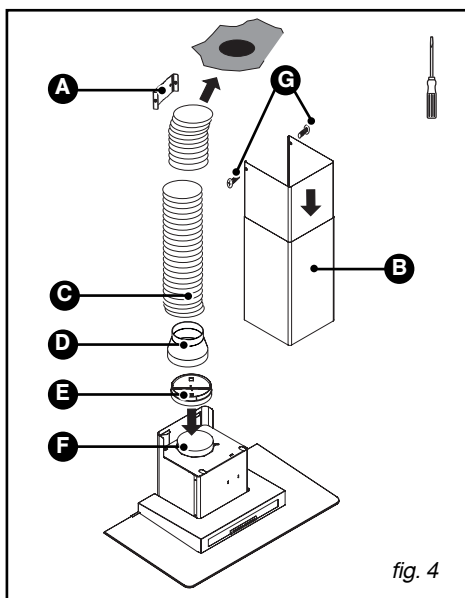

fig. 4
– Slide the end of the flue over the motor outlet (fig. 4).
– Prepare your telescoping ventilation shaft, taking care not to block the vents (fig. 4).
– Attach the upper portion of the ventilation shaft (B/fig. 4) on the metal ventilation shaft bracket (A/fig. 4) using the two screws (G/fig. 4).